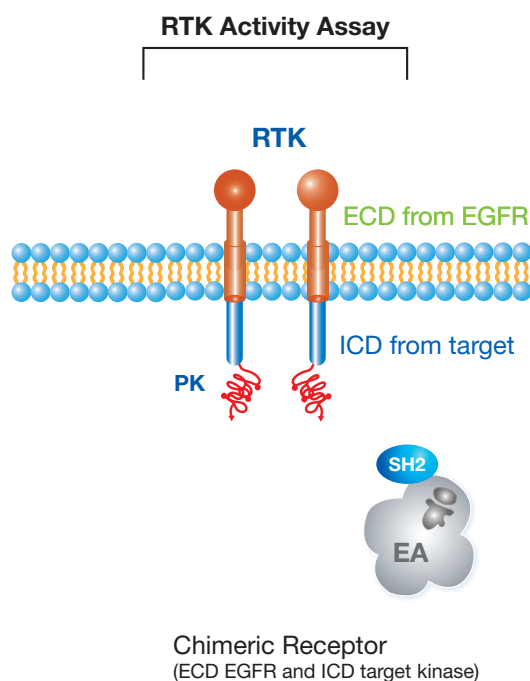

Figure 1: PathHunter Receptor Tyrosine Kinase Activity Assay Principle.
In the PathHunter assay approach for tyrosine kinases, the ProLink tag is fused to the C-terminus of the receptor. The EA is fused to a phosphotyrosine SH2 domain containing protein that is able to bind the activated RTK. Ligand-induced activation of the receptor results in receptor phosphorylation. The SH2-EA fusion protein binds the phosphorylated receptor, forcing complementation of PK and EA to form an active β -gal enzyme. β -gal enzymatic activity is quantitatively measured using a chemiluminescent substrate in the PathHunter Detection Kit (Figure 1.)
- h. Set up additional dose curves for agonists and antagonists. See figures 1 and 2 for sample plate maps with agonist and inhibitor dose curves.
Figure 1. This plate map shows 11-point dose curves with 2 data points at each concentration for 4 compounds per plate for a total of 88 data points per 96-well plate.